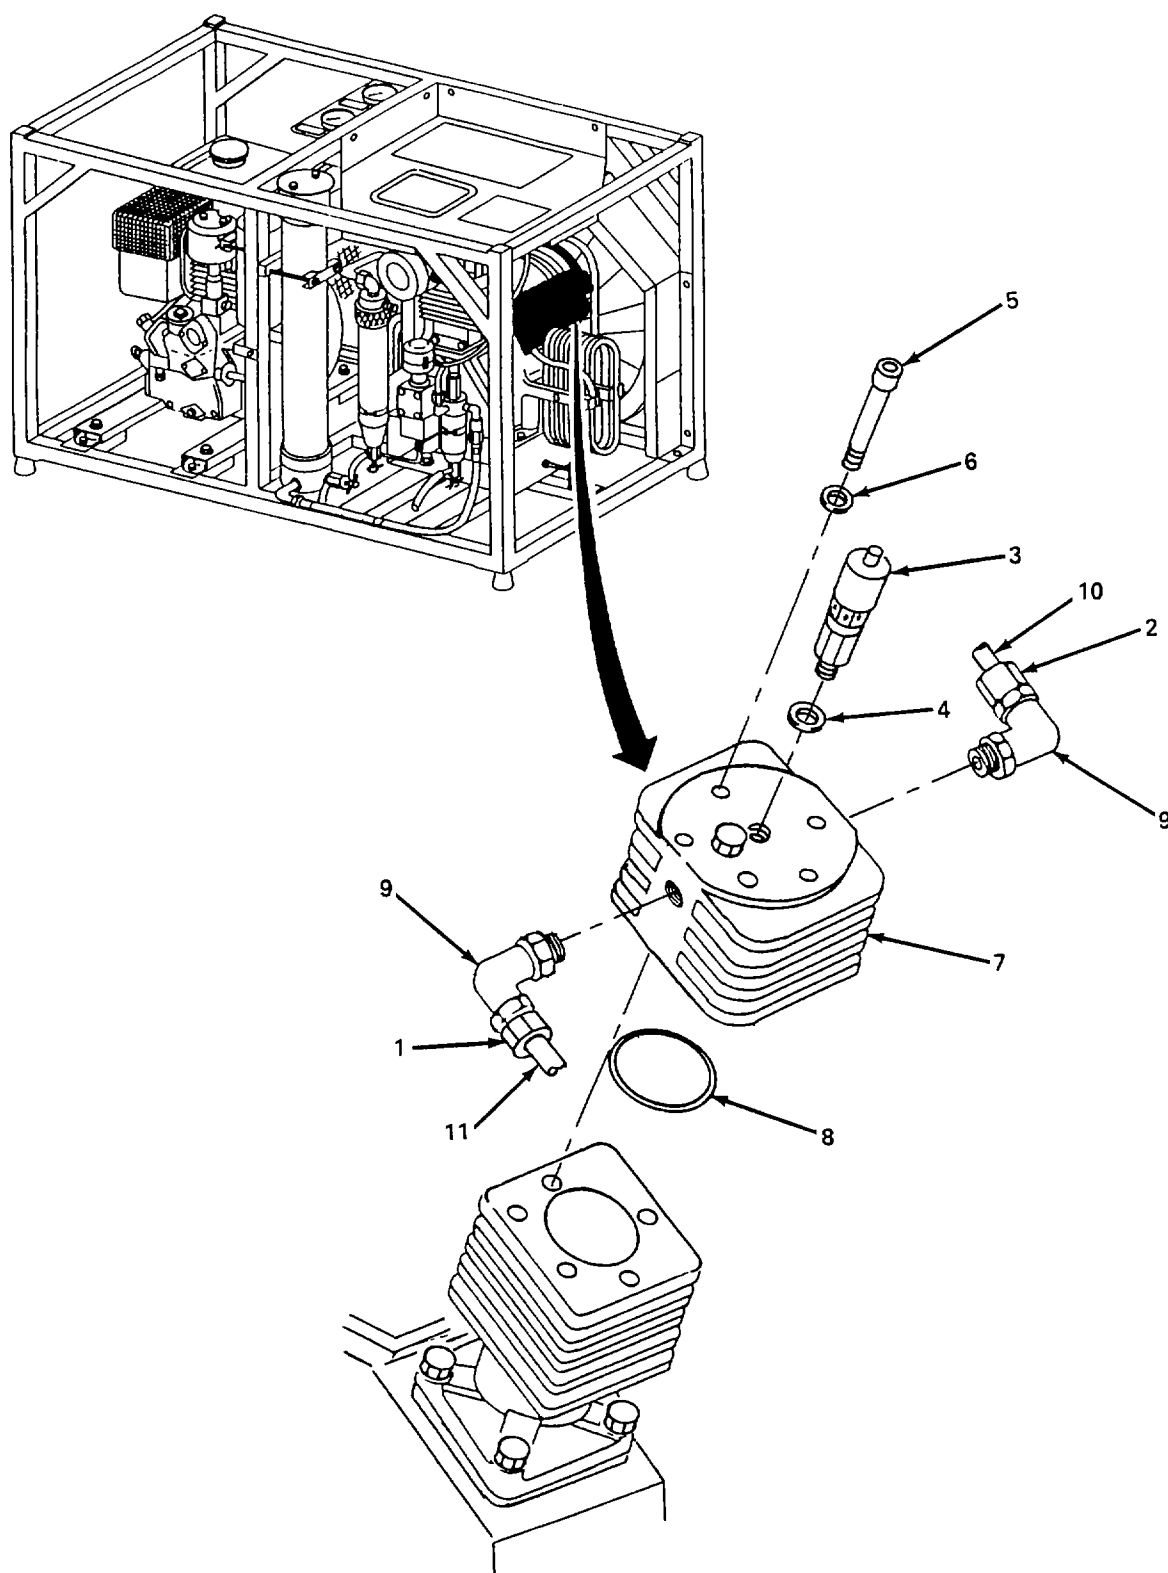

Figure 5-31. Second Stage Valve Head Assembly, Replace.
a. Replace. (figure 5-31)**WARNING**